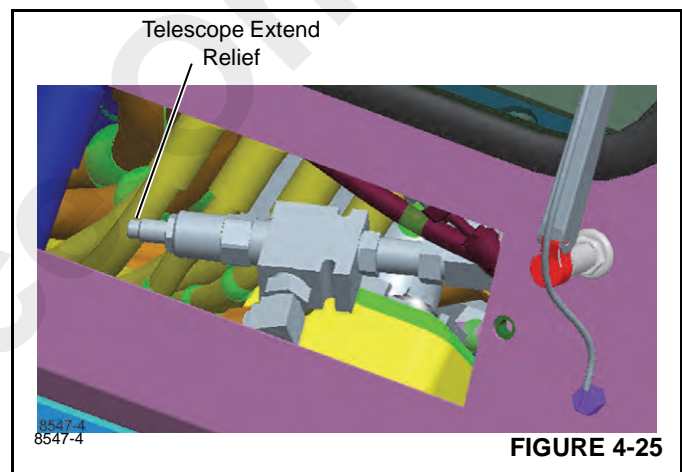

FIGURE 4-25
3. If the pressure needs adjusted, loosen the jam nut on the tele extend relief, shown in Figure 4-25, and turn the tele extend relief adjustment until  $19500 \pm 350$  kPa ( $2825 \pm 50$  psi) is showing on the pressure gauge; clockwise increases pressure, counterclockwise reduces the pressure.